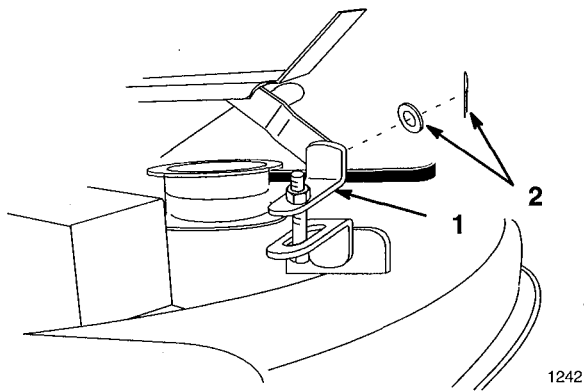

Figure 15
4. Remove hairpin cotter and washer from front adjustable link and remove from front lift arm (Fig. 15).